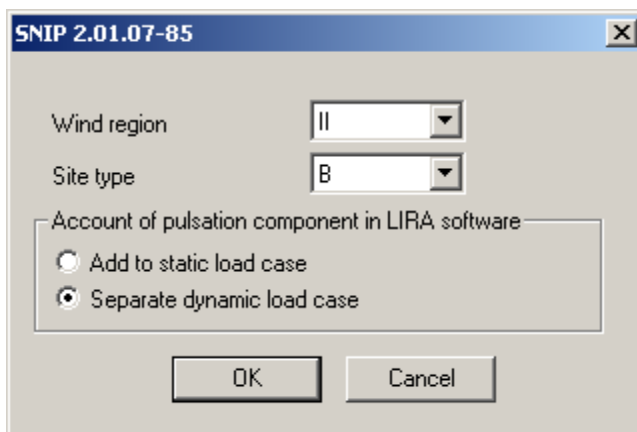

Figure 1.23.1 **SNIP 2.01.07-85** dialog box
- in the **SNIP 2.01.07-85** dialog box (see Fig.1.23.1), define the following parameters: